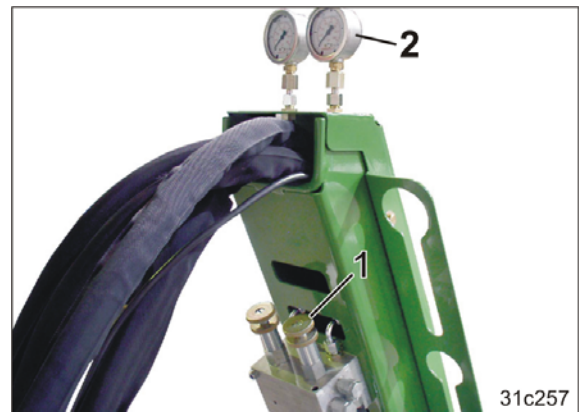

Fig. 88
- the valve (Fig. 88/1) or
- on the pressure gauge (Fig. 88/2),
The pressure indicated on the pressure gauge (Fig. 88/2) changes until the fan blower driven by the tractor hydraulics is running at constant speed.